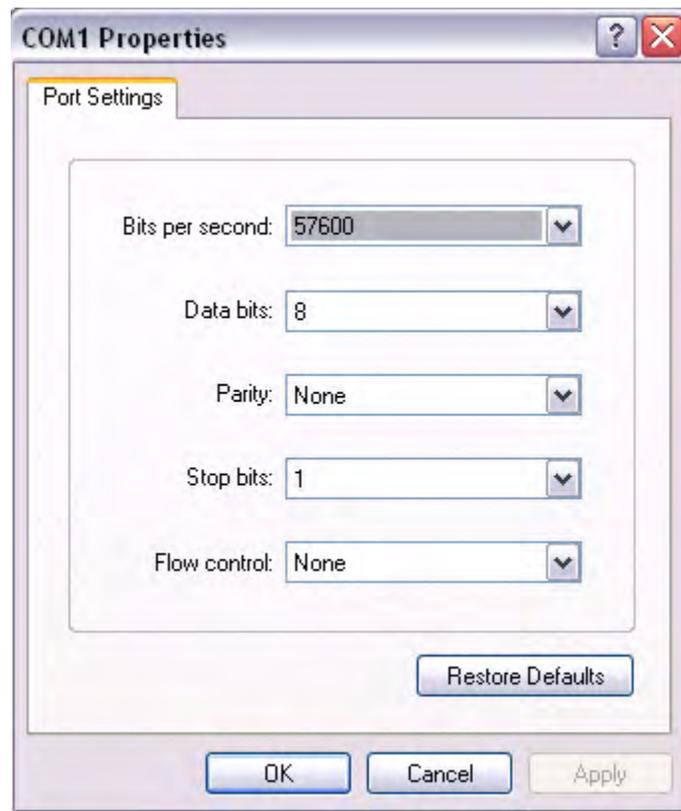

Figure 3. HyperTerminal Settings
2. Enter any name you prefer into the **Name:** field and click **OK**. The COM1 Properties dialog box will appear. In this dialog, ensure that HyperTerminal is configured to match the values shown in Figure 3, then click **OK**.